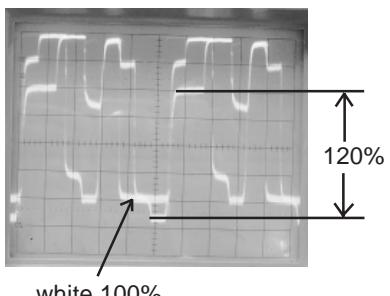

Fig. 2-3
6. Press the VOL. UP/DOWN button on the remote control until the red color level is adjusted to  $120 \pm 5\%$  of the white level. (**Refer to Fig. 2-3**)